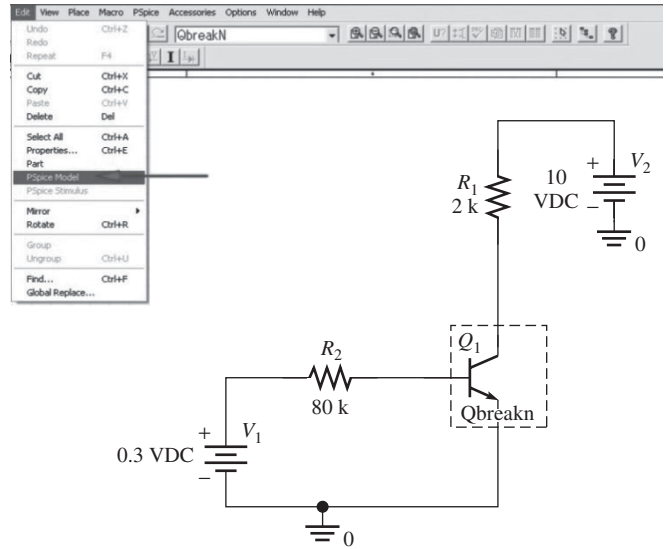

FIGURE 8.96 Enter PSpice model editor for the transistor.
3. Click on the transistor or Qbreakn, and go to the menu “Edit” → “PSpice Model” (see the arrow) as shown in Figure 8.96.